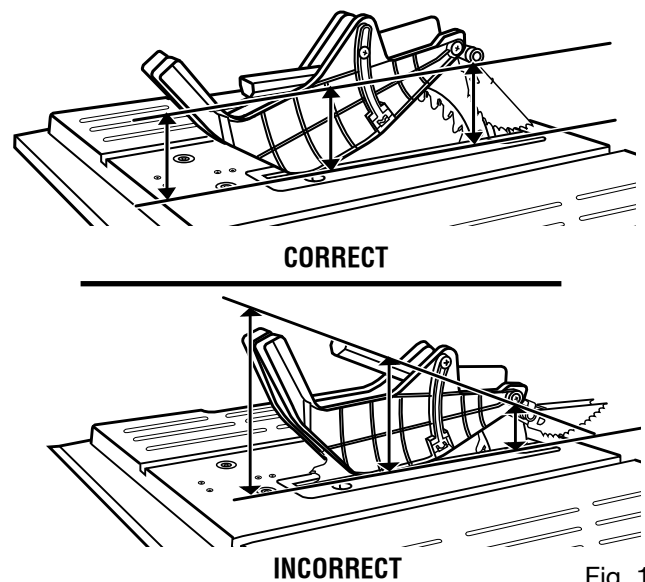

Fig. 16
- With the front of the blade guard raised, lower the back of the guard into the middle hole of the riving knife. Push the front of the guard down until it is **parallel to the table** (see figure 16). If the blade guard is not parallel to the table, the riving knife is not in the “up” position.